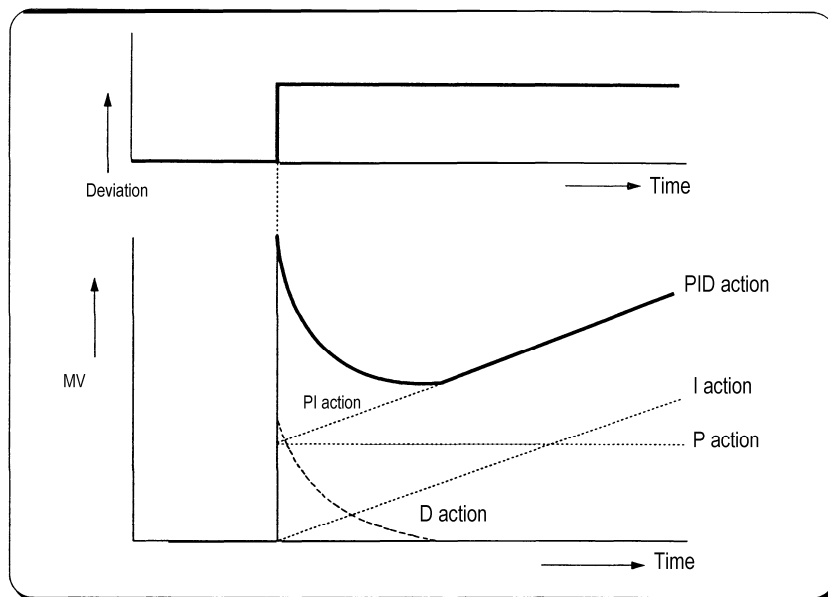

Fig. 7.6 Derivative action with a constant deviation
- ① When a deviation occurs, due to alteration of SV or external disturbances, D action restrains the changes of the deviation by producing MV which is proportioned with the change velocity (a velocity whose deviation changes at every constant interval) in order to eliminate the deviation.
- ② D action gives quick response to control action and has an effect to reduce swiftly the deviation by applying a large control action (in the direction that the deviation will be eliminated) at the earlier time that the deviation occurs.
- ③ D action can prevent the large changes of control object due to external conditions.
- ④ The period of time from when the deviation has occurred to when the MV of D action becomes the MV of P action is called derivative time and is represented as T_d .
- ⑤ The D action when a constant deviation occurred is shown as Fig. 7.6